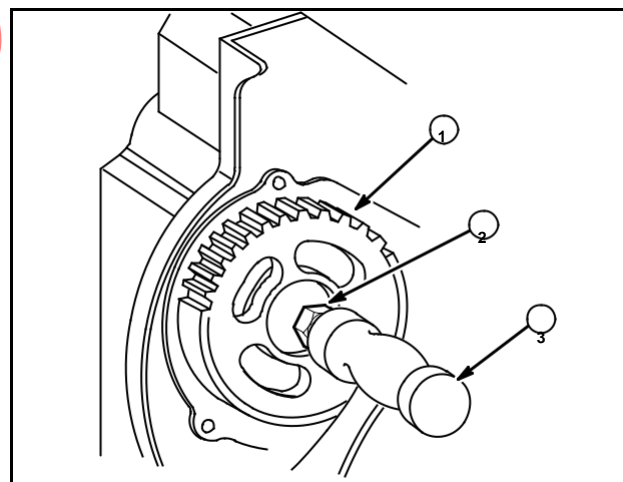

Fig. 5
3. Turn bolt out while pushing out cam gear shaft, Fig. 5.
1. Loosen long bolt and Belleville washer (2) two turns and tap head of bolt with hammer (3) to loosen cam gear (1) from shaft, Fig. 5.